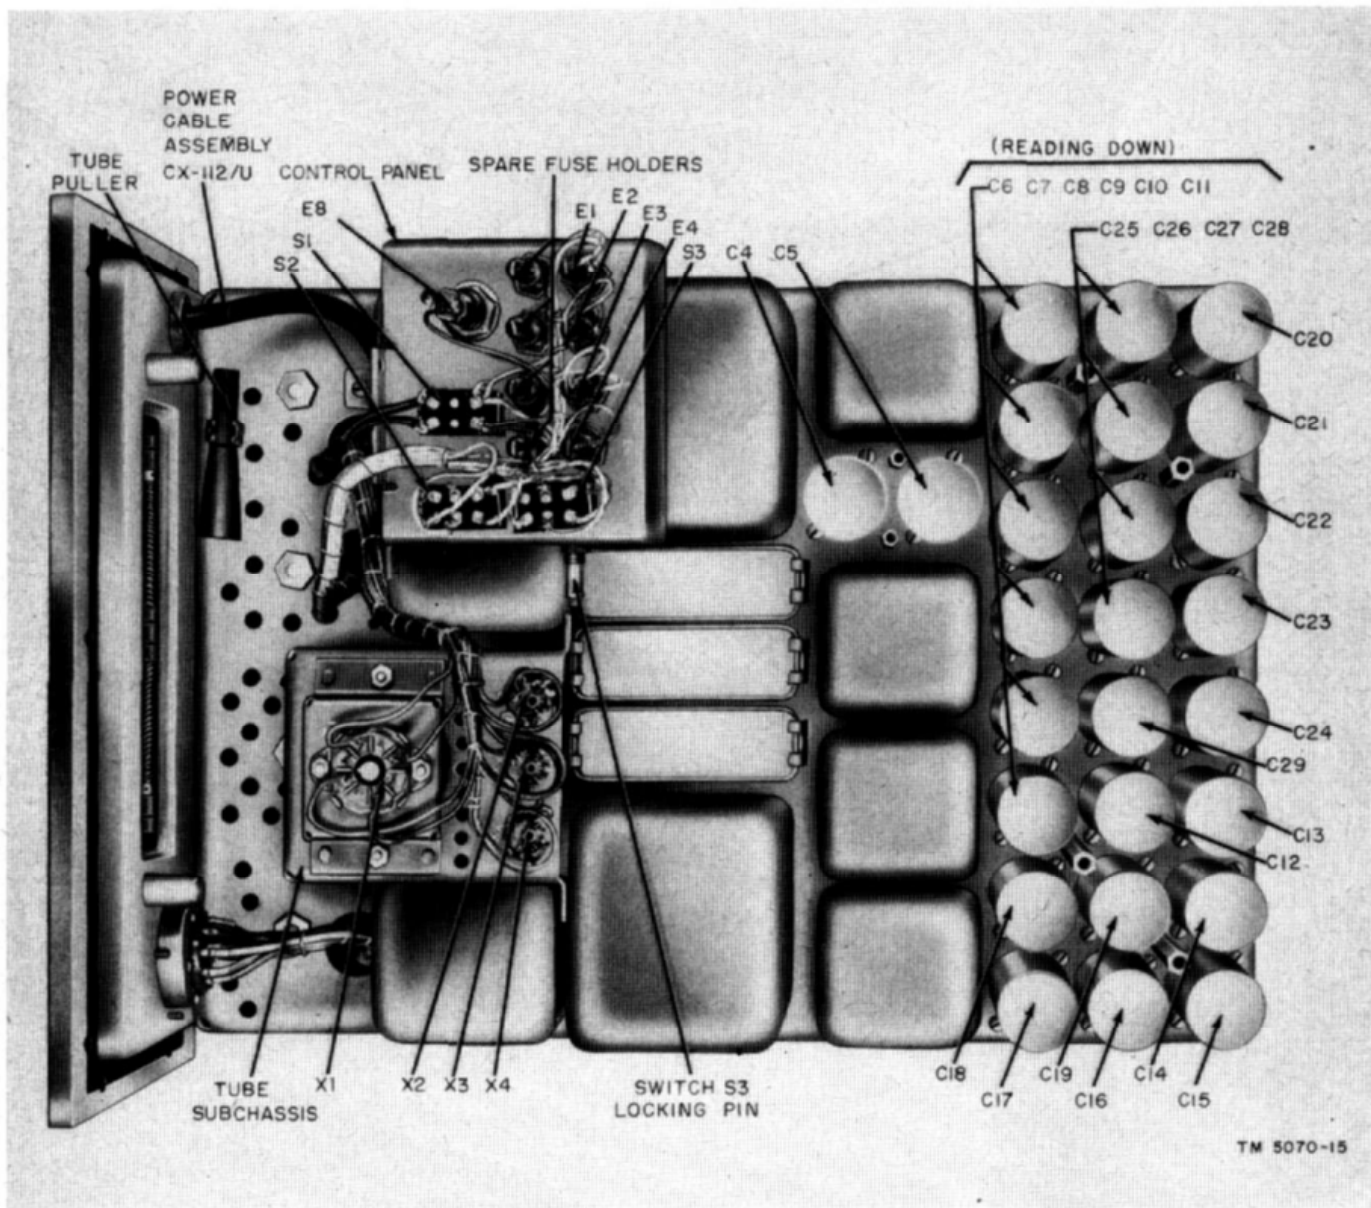
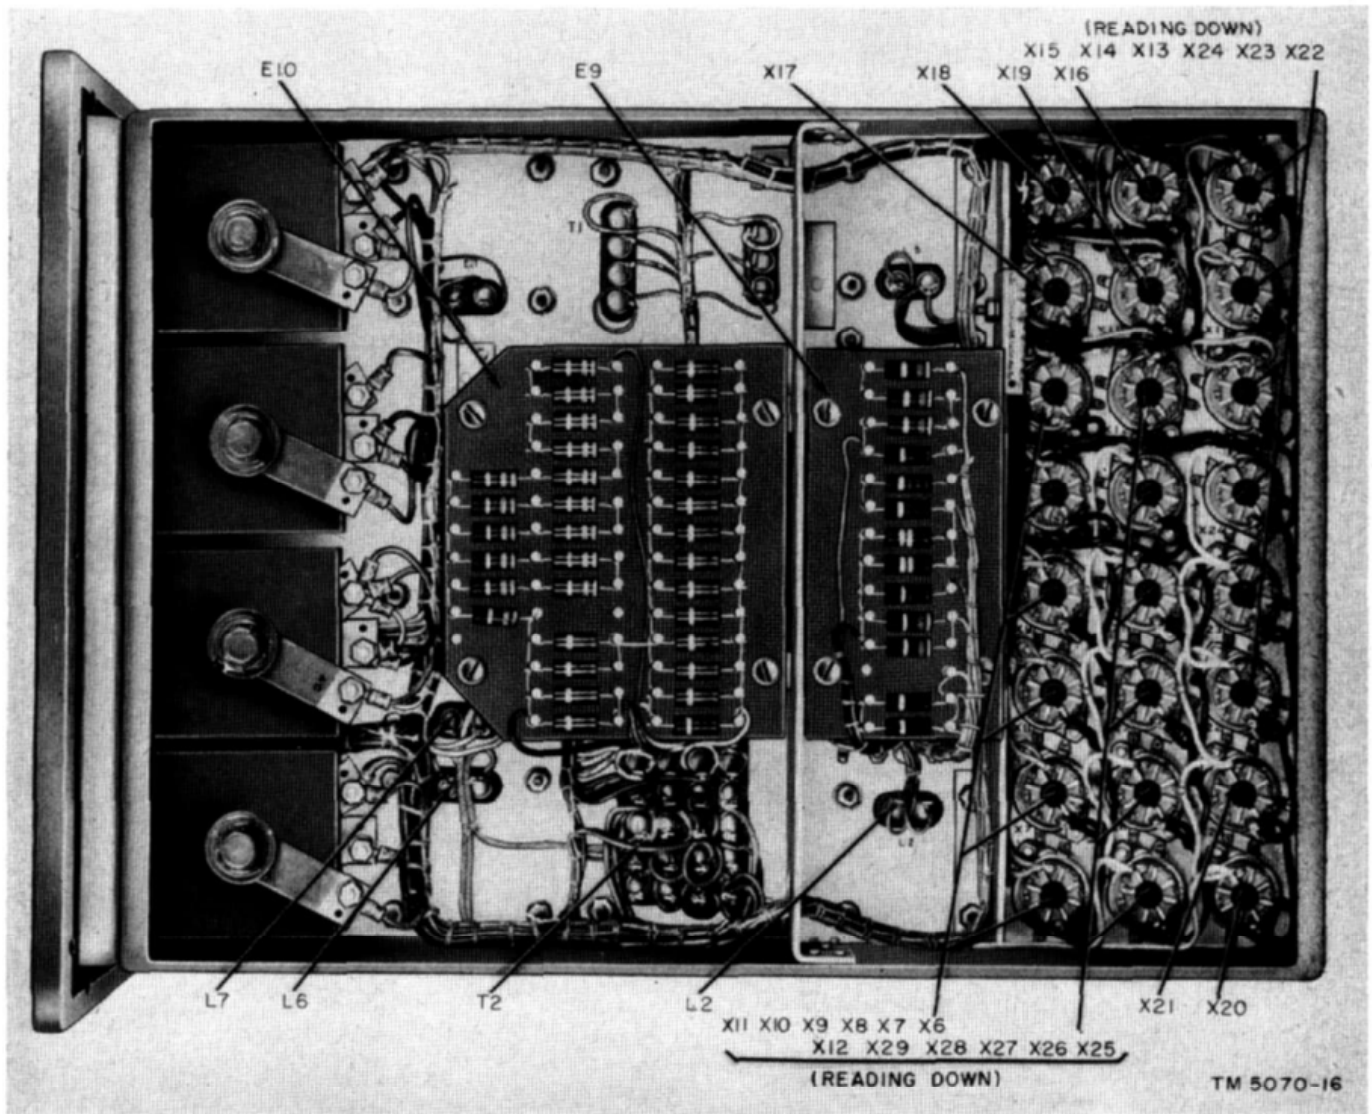

Figure 26. Power Supply PP-327/GRC-9Y, top view, control panel and tube subchassis removed.
Figure 27. Power Supply PP-327/GRC-9Y, bottom view.
- (2) Remove the three screws that secure the control panel to the main chassis.
- (3) Remove the control panel and place it in a position so that the part to be replaced (fig. 26) can be reached.
- (4) Remove the defective part. Tag the disconnected wires.
- (5) To replace the control panel after the defective part has been replaced, reverse the procedure in (1) through (3) above.
- (1) Remove the screw that holds the control panel and the tube subchassis together.
- (2) Remove the four screws that secure the tube subchassis to the main chassis.
- (3) Remove the tube subchassis and place it in a position so that the socket to be replaced (fig. 26) can be reached.
- (4) Remove the defective socket. Tag the disconnected wires.
- (5) To replace the tube subchassis after the socket has been replaced, reverse the procedures outlined in (1) through (3) above.
d. Resistor Boards. Resistor boards E9 and E10, which are located in the bottom of the unit, cover or partially cover some of the parts of the power supply (fig. 27). Resistor board E9 covers reactors L3 and L4 and capacitor sockets X5 and X30. Resistor board E10 covers capacitors C1, C2, and C3 and relays K1 and
a. *Receiver Filament Supply.* Measure the output voltage of the receiver filament supply (pin 22 of connector J1 to ground). If the voltage under load is below 1.6 volts, clip the leads to resistor R27 on terminal board E9 (figs. 27 and 36) and remove the resistor. If the voltage is still low, remove resistor R28. If removal of both resistors does not result in sufficient output voltage, replace rectifier CR1.
b. *Control Voltage Supply.* Measure the output voltage of the control voltage supply (pin 34 of connector J1 to ground). If the voltage under load is below 6.7 volts, clip the leads to resistor R29 on terminal board E10 (figs. 27 and 36) and remove the resistor. If the voltage is still low, remove resistor
c. Transmitter Filament Supply. Measure the output voltage of the transmitter filament supply (pin 20 of connector J1 to ground). If the voltage under load is below 6.5 volts, clip the leads to resistor R45 on terminal board E10 (fig. 27 and 36) and remove the resistor. If the voltage is still low, remove resistor R46. If removal of both resistors does not result in sufficient output voltage, replace rectifiers CR3 and CR4.